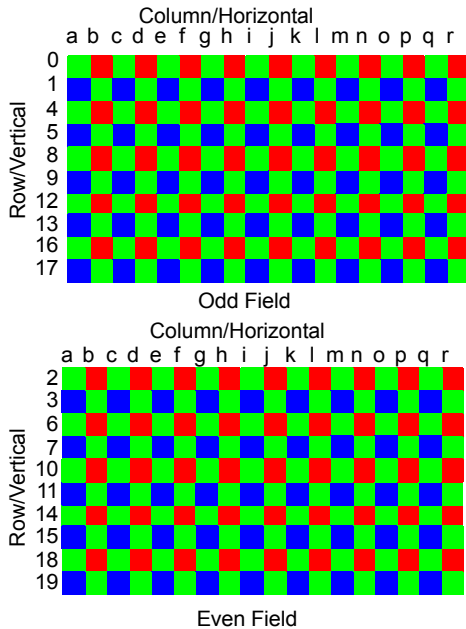

Figure 14. Interlace Read Out Mode Example 1
Example 1, figure 14 shows a “*Scan Window*” of 20 rows and a “*Display Window*” of 20 rows and 18 columns. This is broken up into two fields:
- The odd field is read out first. The odd field will consist of pixels a_0, b_0, \dots, r_0 ; a_1, b_1, \dots, r_1 ; ... ; $a_{17}, b_{17}, \dots, r_{17}$ as shown in figure 14.
- The even field is then read out. The even field will consist of pixels a_2, b_2, \dots, r_2 ; a_3, b_3, \dots, r_3 ; ... ; $a_{19}, b_{19}, \dots, r_{19}$ as shown in figure 14.